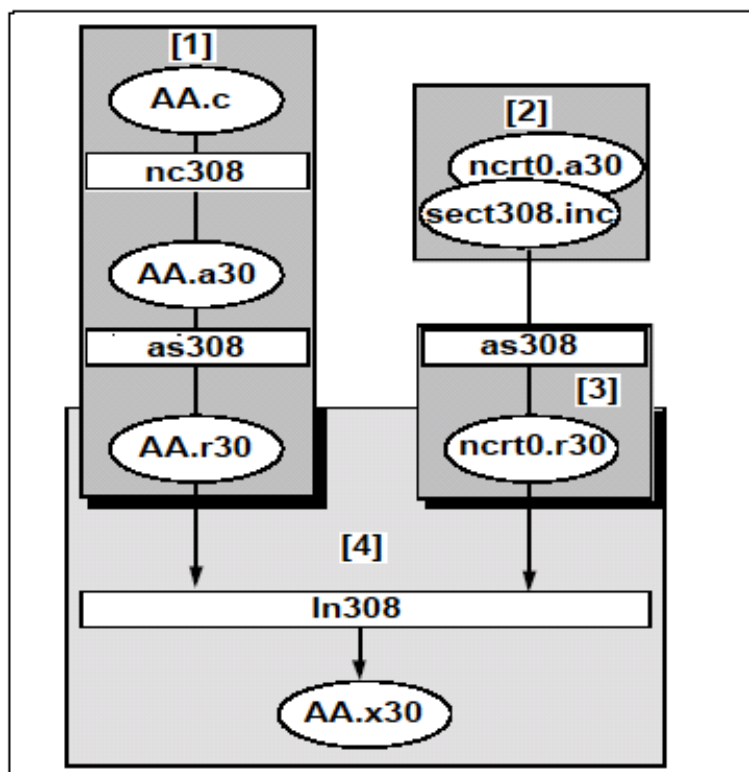

Figure 1.5 Flow of Program Development
Figure 1.5 shows an example flow for program development using NC308. The following is an overview of this program (items 1 through 4 correspond to those in Figure 1.5).
- (1) The C source program ("AA.c") is compiled by nc308 and assembled by assembler as308, and the relocatable object file ("AA.r30") is created.
- (2) The settings for section location, section size, and interrupt vector table are changed to match systems in which the include file "sect308.inc" is embedded. This file contains code for startup program "ncrt0.a30", as well as section information.
- (3) The changed startup program is assembled, and as a result, the relocatable object file "ncrt0.r30" is created.
- (4) The two relocatable object files, "AA.r30" and "ncrt0.r30", are linked by linkage editor ln308, which is executed from nc308. The absolute module file ("AA.x30") is then created.